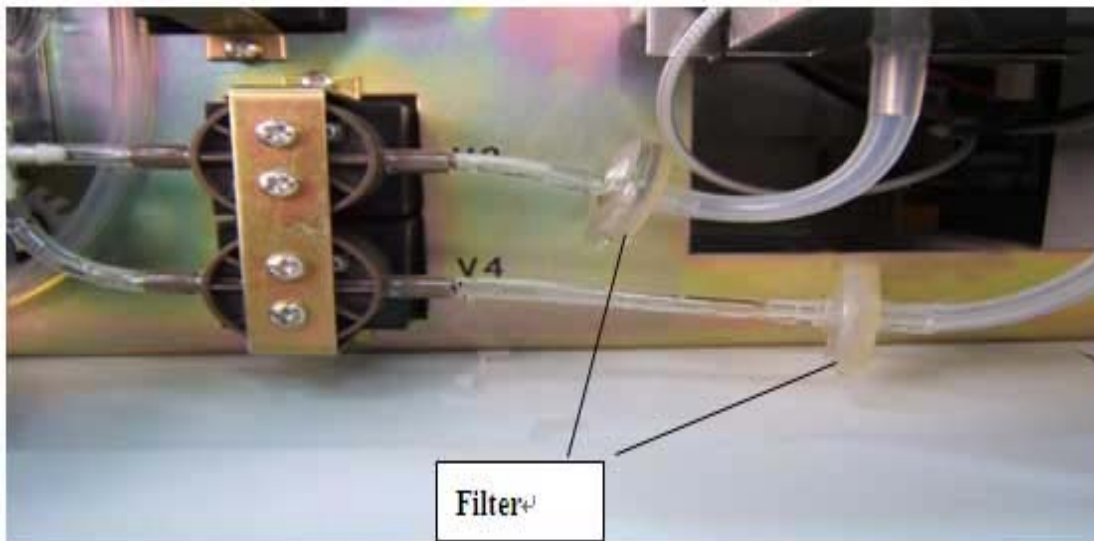

Figure 9-3
- There are two filters under the probe cup at right down corner, as Figure 9-3 shows.